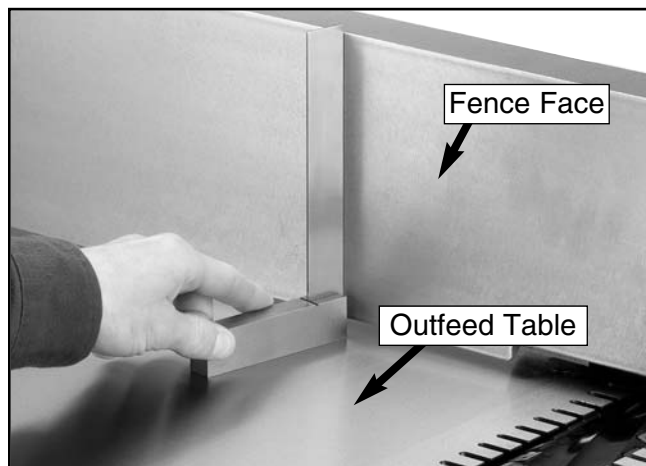

Figure 23. Using a square to align fence.
4. Place a square against the fence face and the outfeed table as shown in **Figure 23**. There should be no gaps between the square and the fence or the outfeed table. If this condition is not present, refer to *Section 8: Service Adjustments*.